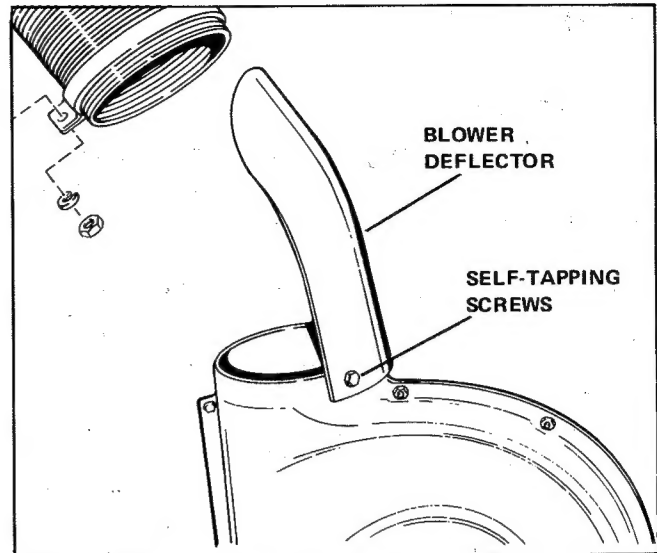

Figure 19. Assembling Deflector
8. Attach the blower deflector to the outside of the blower housing with two self-tapping screws. (See figure 19.)